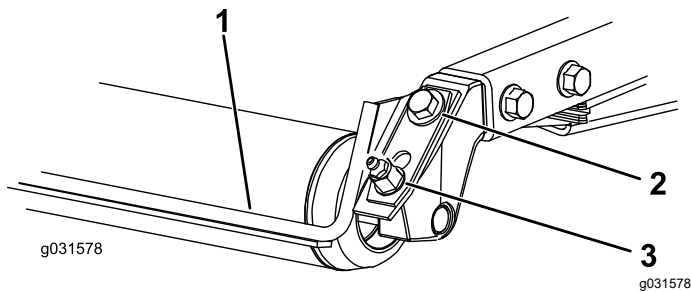

Figure 20
1. Loosen the grease fitting and the mounting screw (Figure 20).